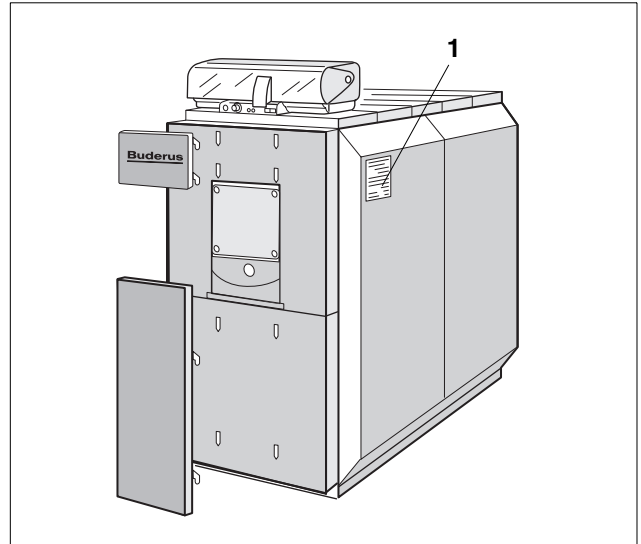

Fig. 23 Securing the rating label
- Secure the rating label to the left or right side of the boiler based on local requirements (Fig. 23, **Item. 1**).